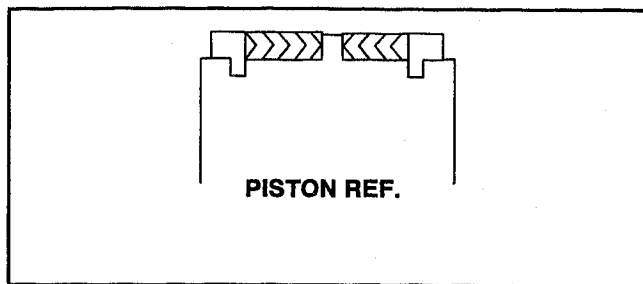

Figure 2-7. Poly-Pak Seal Installation.
WHEN INSTALLING NEW "POLY-PAK" TYPE PISTON SEALS, ENSURE SEALS ARE INSTALLED PROPERLY. REFER TO FIGURE 2-7 FOR CORRECT SEAL ORIENTATION. IMPROPER SEAL INSTALLATION COULD RESULT IN CYLINDER LEAKAGE AND IMPROPER CYLINDER OPERATION.
**WHEN INSTALLING NEW "POLY-PAK" TYPE PISTON SEALS, ENSURE SEALS ARE INSTALLED PROPERLY. REFER TO FIGURE 2-7 FOR CORRECT SEAL ORIENTATION. IMPROPER SEAL INSTALLATION COULD RESULT IN CYLINDER LEAKAGE AND IMPROPER CYLINDER OPERATION.**